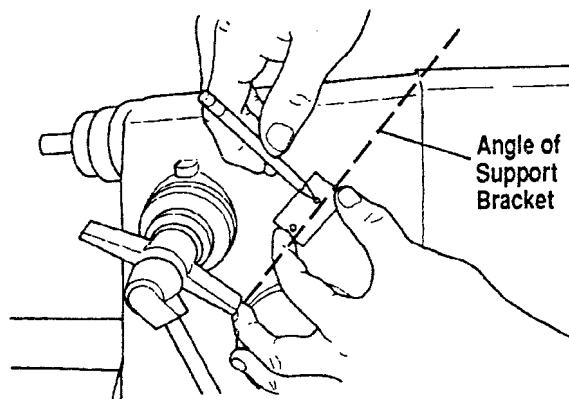

Fig. 3
4. Use a pencil to mark the two drill holes, as in Fig. 3.